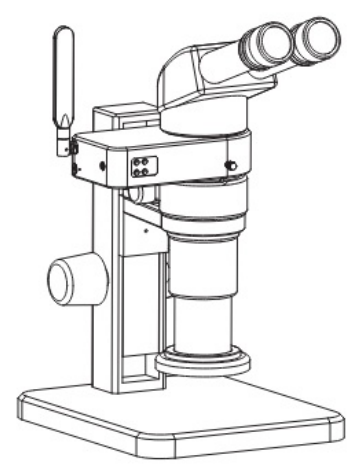

Figure 3
3. Installation for the objective end of the microscope, as shown in Figure 3: